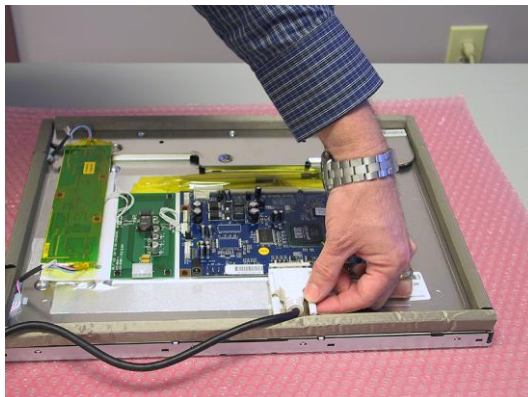

**Figure 4-27**
- 17) While carefully supporting the LCD panel, gently raise the main monitor assembly and "snake" the cables through the slot as illustrated in Figure 4-27.